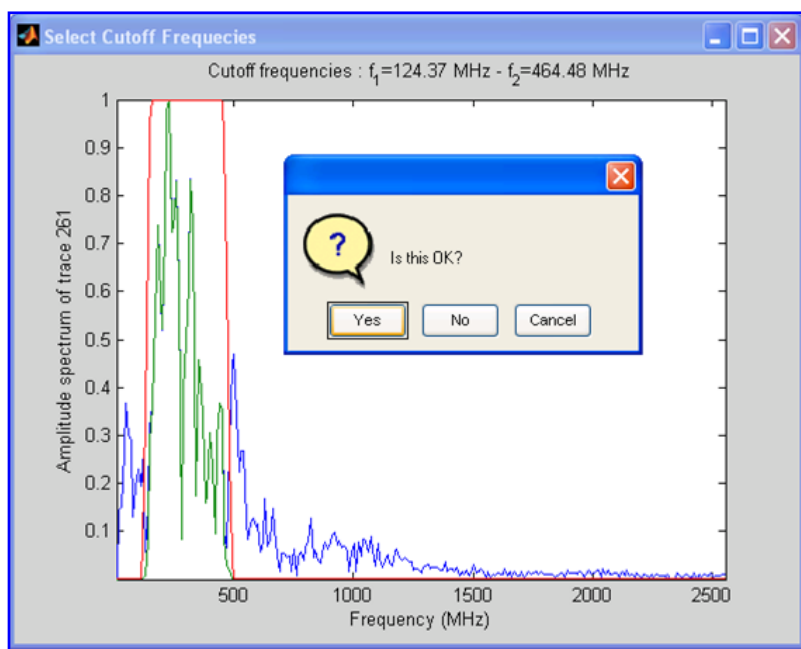

Figure 8. An F-filter is applied to the test trace. The program displays the result and awaits instructions.
1. *Graphically, on a test trace or scanline:* matGPR prompts the user to pick a test trace or scanline and displays its power spectrum as per Figure 8 (blue line). The cut-off frequencies are picked by pointing and clicking. The spectrum of the filter is then displayed as per Figure 8 (red line), together with the spectrum of the filtered data (green). The user may then apply or discard the filter and repeat the process.